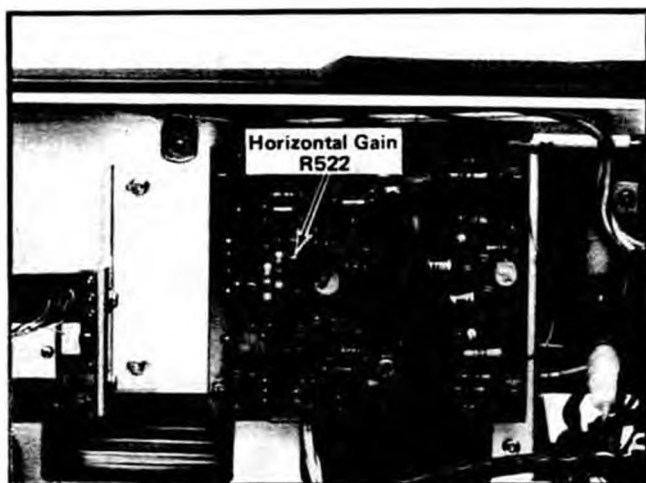

Fig. 5-15. Location of Horizontal Amplifier Gain adjust R522.
c. ADJUST—Horizontal Amplifier Gain adjustment R522 (see Fig. 5-15) for 8 divisions of deflection between the second and eighth traces.